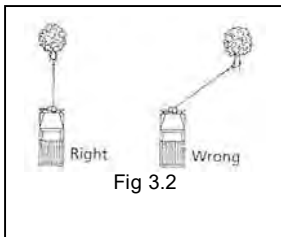

Fig 3.2
**⚠** Do not winch from an acute angle as the wire rope will pile up on one side of the drum causing damage to wire rope and the winch. Fig 3.2